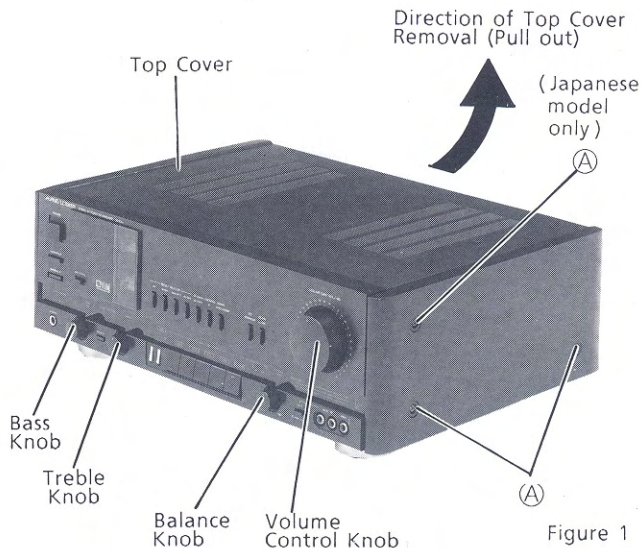

Figure 1
- (1) Remove six screws marked "Ⓐ" as shown in Figures 1 and 2.
- (2) Pull out the top cover in the direction of the arrow as shown in Figure 1.
- (1) Remove the volume control knob as shown in Figure 1.
- (1) After removal of The Front Panel, remove three control knobs (bass, treble, balance), remove two hooks (A), and remove six screws marked "Ⓒ" as shown in Figures 1, 2 and 4.
- (2) Disconnect all wires from the Front Escutcheon.
- (3) The Front Escutcheon with Function LED, Tone and Headphone P. C. Boards can be removed completely.